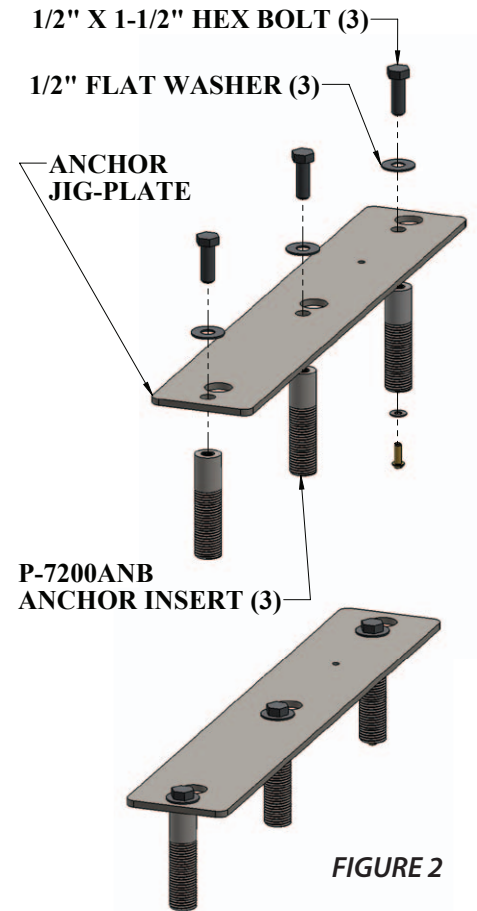

FIGURE 2
**4. Thread the 1/2 inch hex bolts and flat washers through the smaller anchor jig plate holes and into the anchor inserts. Be sure to use anti-seize on the threads! Confirm the tops of the inserts are flush with the bottom of the plate. *SEE FIGURE 2 ON PAGE 5***